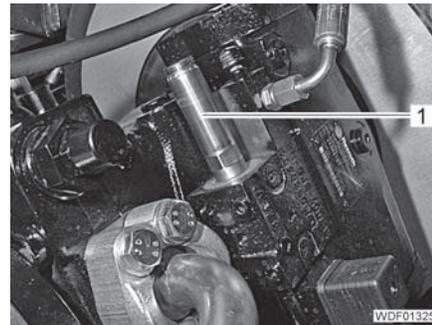

Fig. 448 Core
- Unscrew the core (Fig. 448,1).